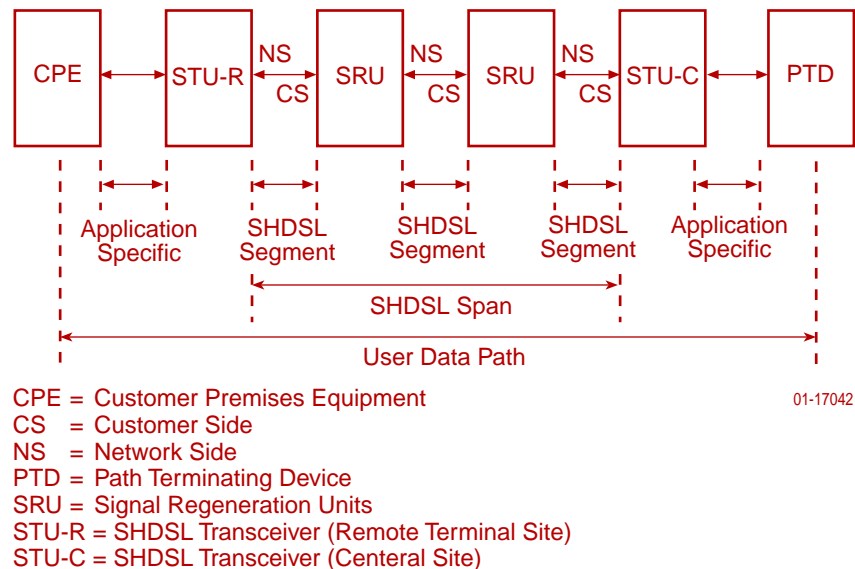

Figure 5-1. SHDSL Data Path
3. Enter the unit to be tested in the SHDSL network segment (STU-C, STU-R, or SRU1–SRU-8). Use the unit identifiers defined in Figure 5-1, SHDSL Data Path.
4. Enter the side of the selected unit to be tested (Customer or Network) as shown in Figure 5-1, SHDSL Data Path.